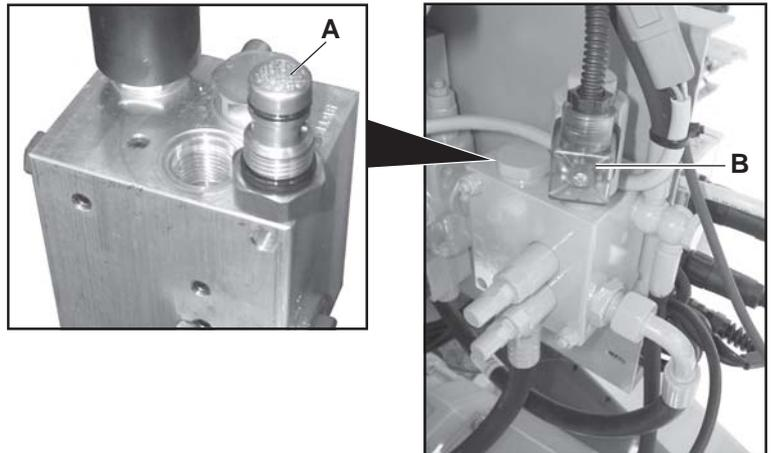

fig.1
**Electro-hydraulic valve, fig.1** (spare part code 99055062): this valve is connected to the hydraulic pump of the services.
When replacing the oil filter, we also recommend cleaning the small filter (**A, fig. 1**) installed in the electro-hydraulic pump by blowing compressed air.
B, fig. 1 = LED in solenoid valve connector